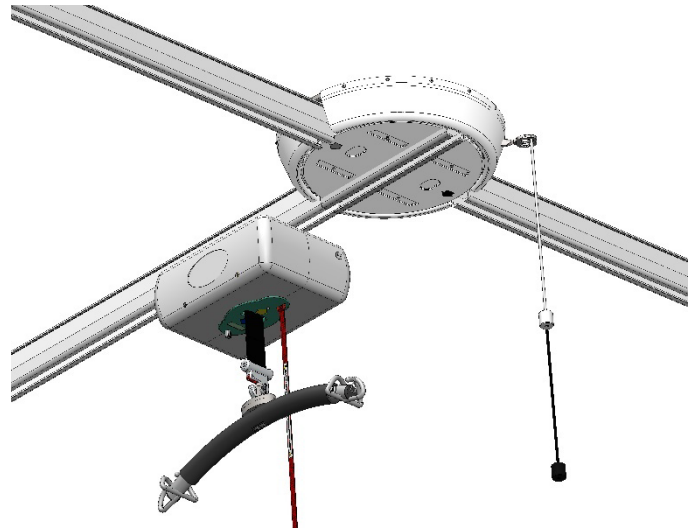

Figure 39
7. Once aligned with the track exit, traverse the hoist out of the turntable and into the new track system. (Figure 39)